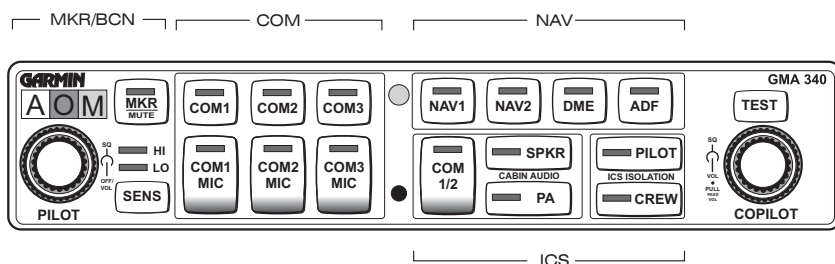

Figure 7-1
**NOTE:** The GMA 340 Audio Panel is shown in figure 7-1.